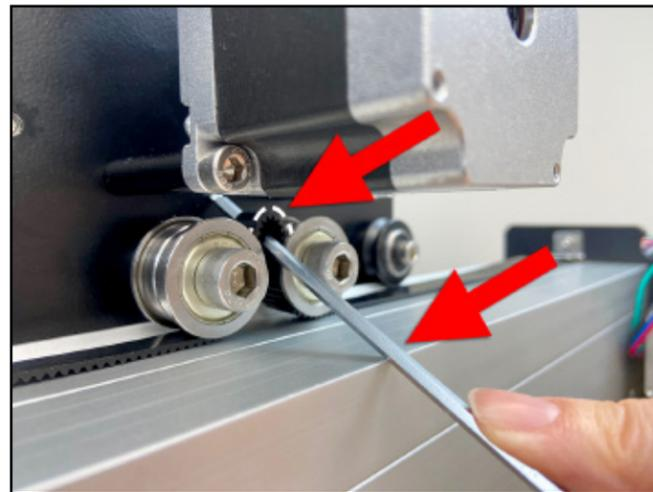

Figure 5-7
6. Slide the 3mm hex key under the belt, between the two idlers. Use the hex key as a lever against the X-rail to push a loop of belt up between the two idlers as shown in **Figure 5-7**.